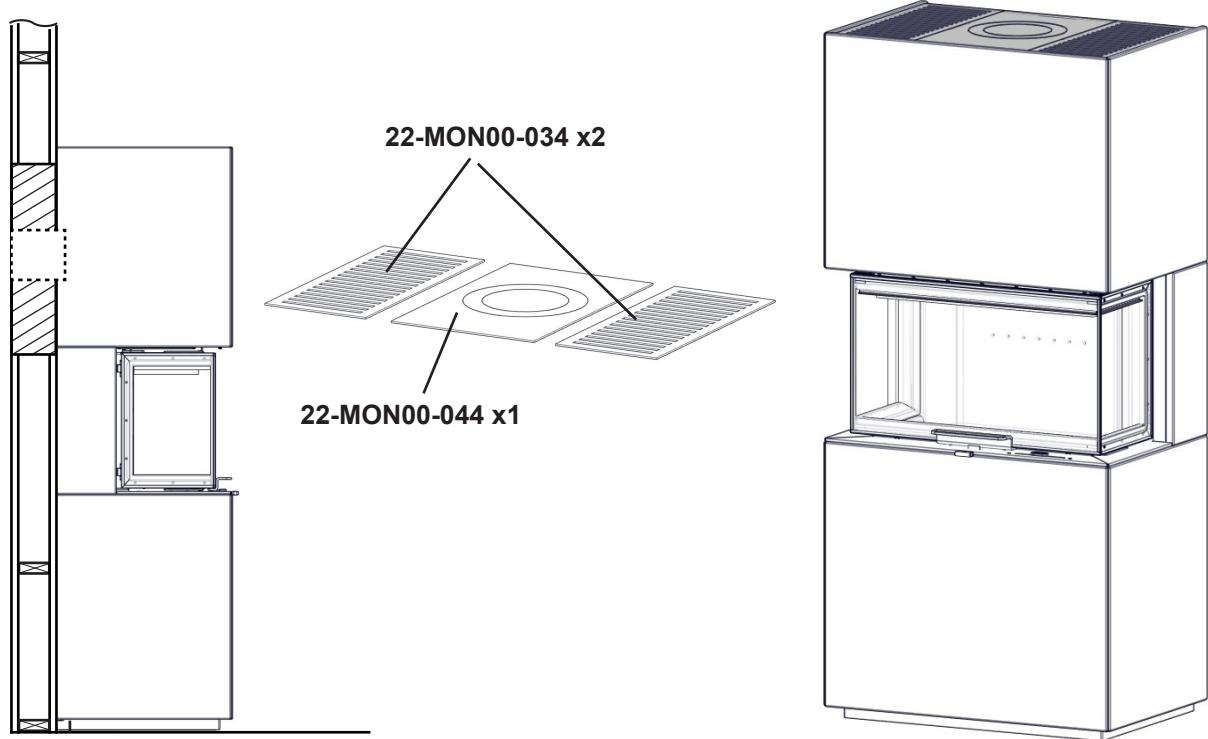

**FIG 18**
**FIG 18 a** Monaco II High Base\_Q-34 UL